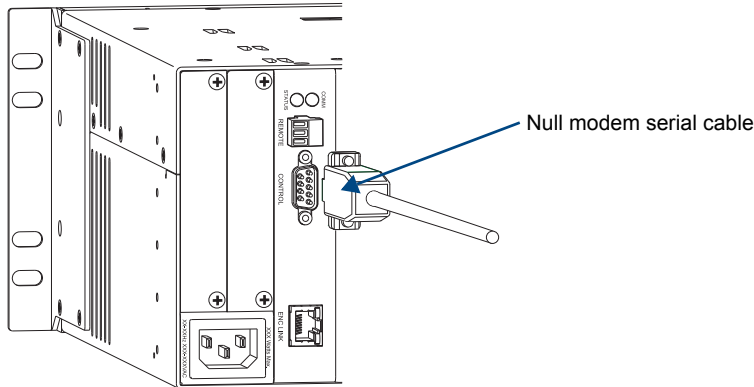

FIG. 10 Attach null modem serial cable to CONTROL port
2. Plug one end of the null modem serial cable into the CONTROL (RS-232) port on the enclosure (FIG. 10).